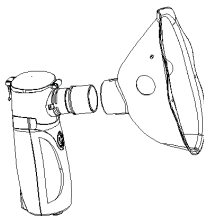

Fig. 10
- a. Connect mask connector to mesh outlet, then connect mask to the mask connector. (Refer to Fig. 10, 11)